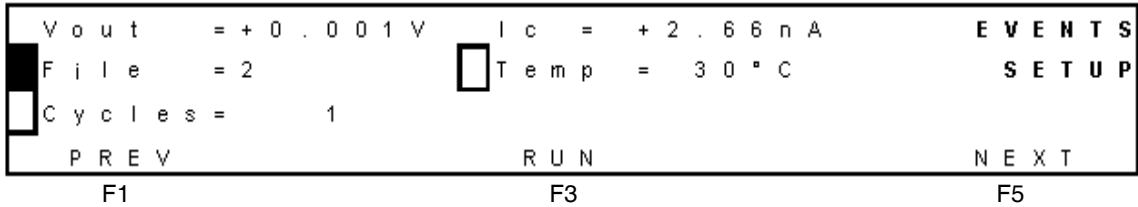

Figure 3-35 Events Setup Screen with Time File 2
- c. Select **F1 PREV**. The Events Setup screen appears (Figure 3-35).